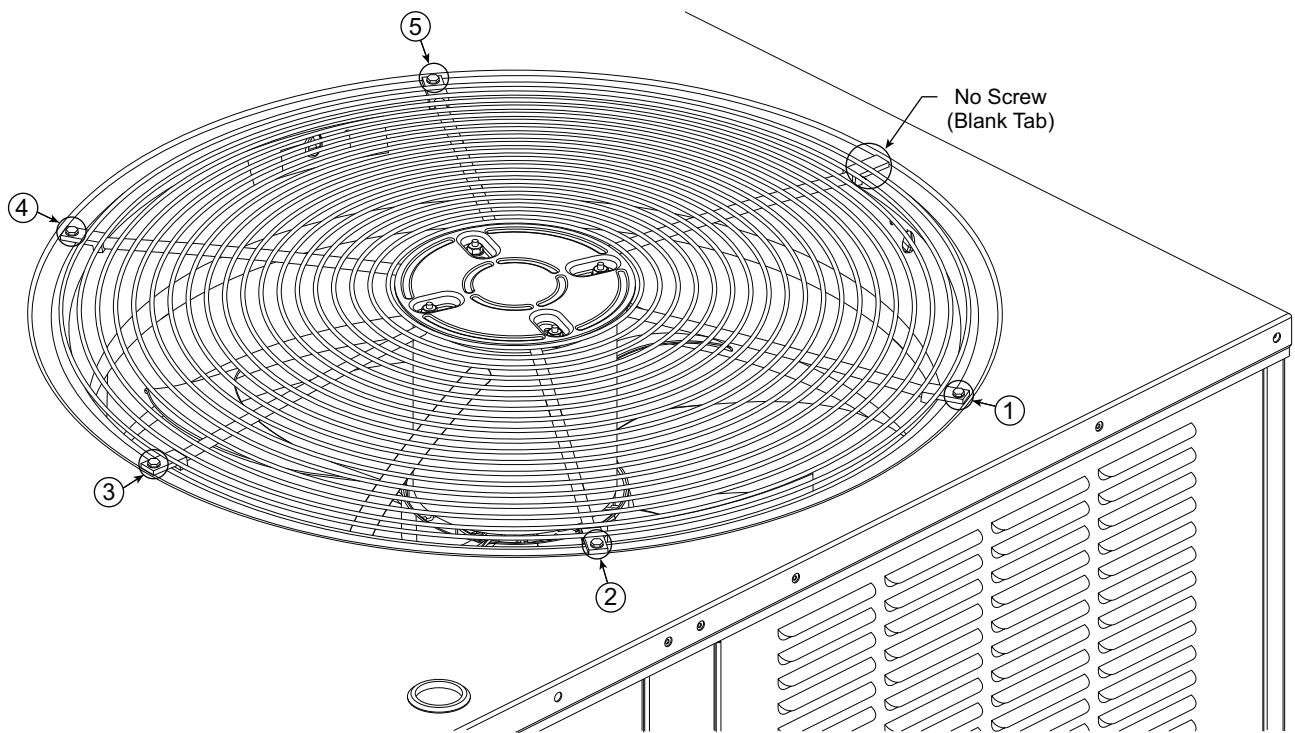

Fig. 30 – Condenser-Fan Assembly – Screw Pattern Sequence
6. Replace condenser-fan assembly. When replacing the condenser-fan assembly follow the screw pattern sequence shown in Fig. 30. The screws must be replaced in the sequence shown in the figure.